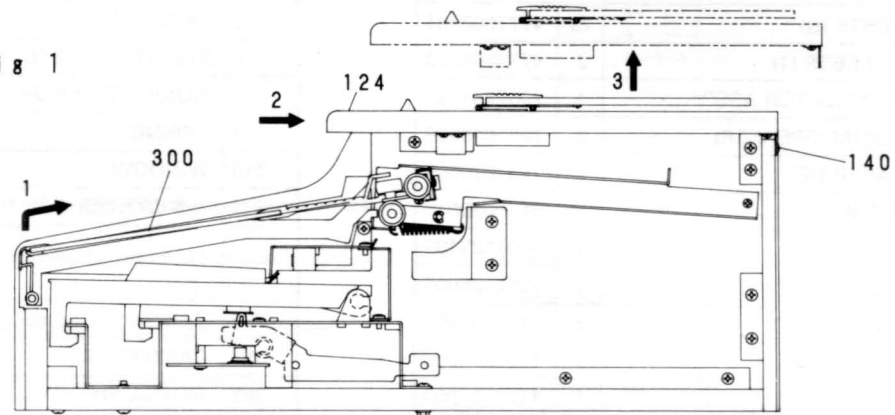

Fig 2
2. Remove the lid ass'y. (Fig.2)